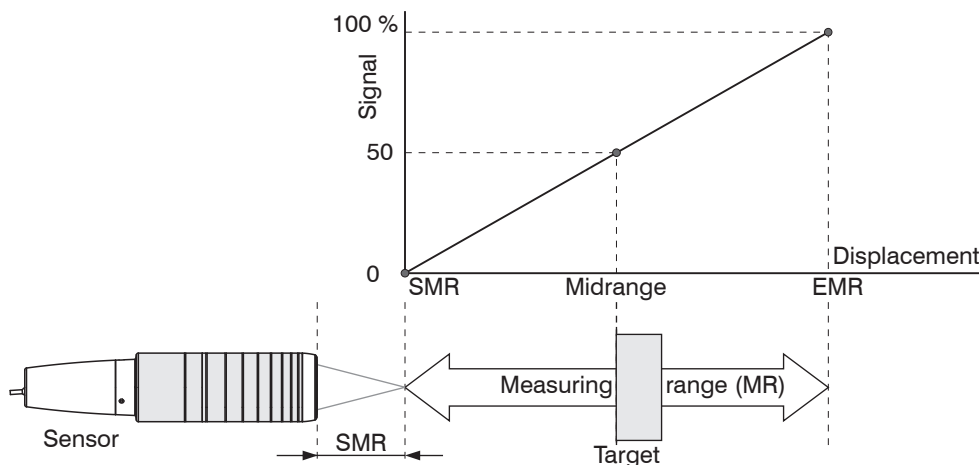

Fig. 6.5: Definition of measuring range and output signal
- Position the target in the mid of the measuring range, see Fig. 6.5. Keep adjusting the measuring rate until you get a high signal intensity that is not saturated.